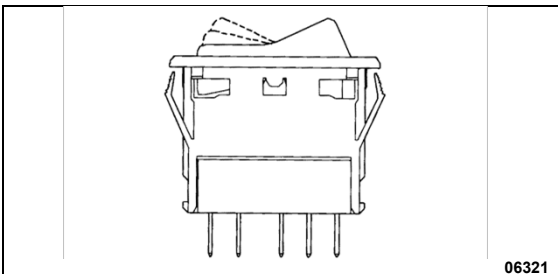

FIGURE 123: SWITCH
3. To install a new switch, reverse the procedure (Figure 123)